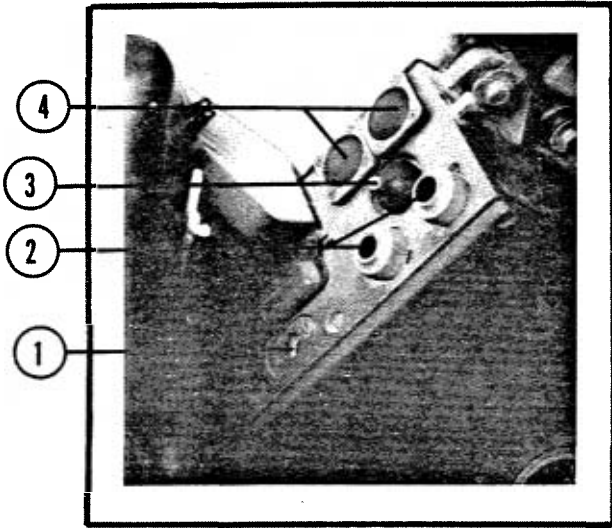

FIG. 2-20. FIRE EXTINGUISHER
h. Fire Extinguisher Control Box (Fig. 2-20) The fire extinguisher control box on the hull ceiling near the instrument panel operates the organic T-62 fire extinguisher system. It has two red check
lamps that will glow to indicate an operational system when the master switch is on. There is a small check window on the left panel front that reveals the number of fire extinguisher bottles still full. It should read "3". There are two metal covers on the panel front. The left cover conceals the resetting mechanism for the number of extinguisher bottles. The right cover (Fig. 2-20) conceals two push buttons and a toggle switch. The toggle switch selects either automatic or manual operation of the system. The push buttons activate fire extinguisher bottles for the turret or the engine compartment. NOTE: The mixture used in the fire extinguisher bottles is extremely toxic. All crew members must exit the tank when this system is used.
k. Check the fire extinguisher system control box (Fig. 2-20) to see that the lights are illuminated and that the number "3" appears in the check window.